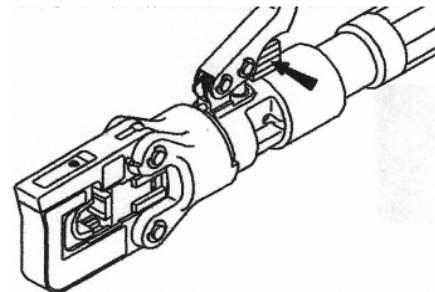

Figure 41. HD51 Pressure Release Trigger
- c. Activate the pressure release trigger to retract the hydraulic ram (Figure 41).